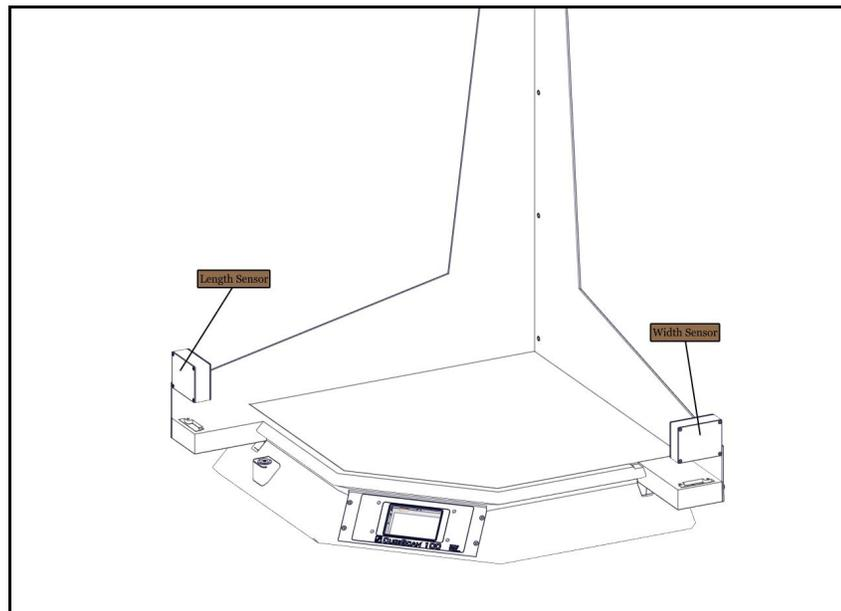

Figure 6
1. Place the width sensor, labeled **Right**, on the right, front corner of the base (see Figure 6). You will need to push the side panel out slightly to place the sensor in the correct position. If you tightened the front-most screw, you need to loosen it.